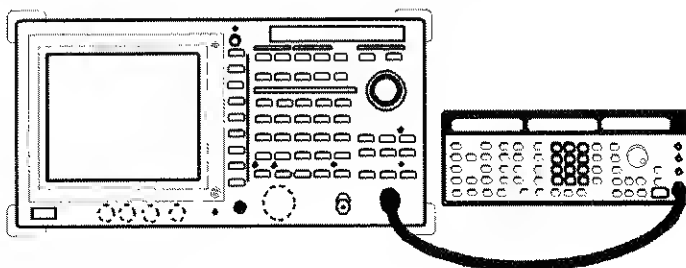

Figure 2-117 Setup for Measuring the Harmonic Distortion
1. Connect the unit under test as shown in Figure 2-117.